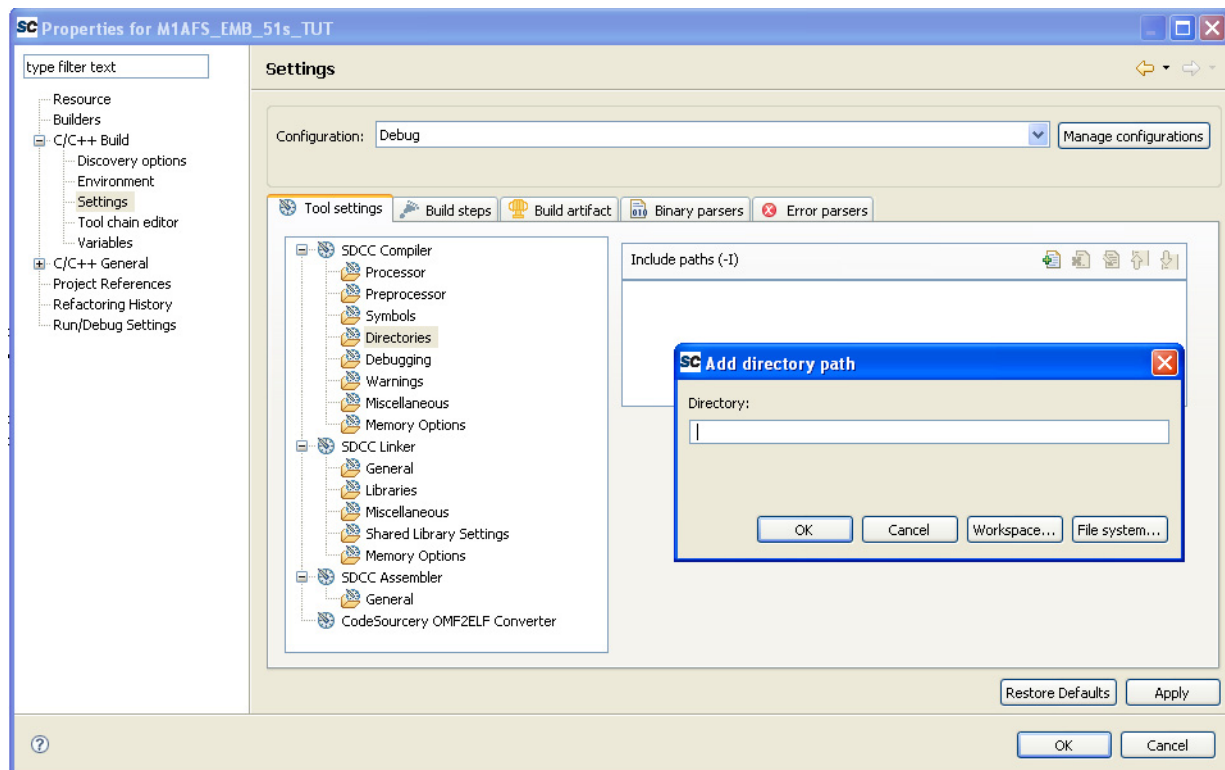

Figure 4-9 · Setting the Directory Paths for the SDCC Compiler
4. Click the + icon to add a path. This will open the Add directory path box (Figure 4-9)